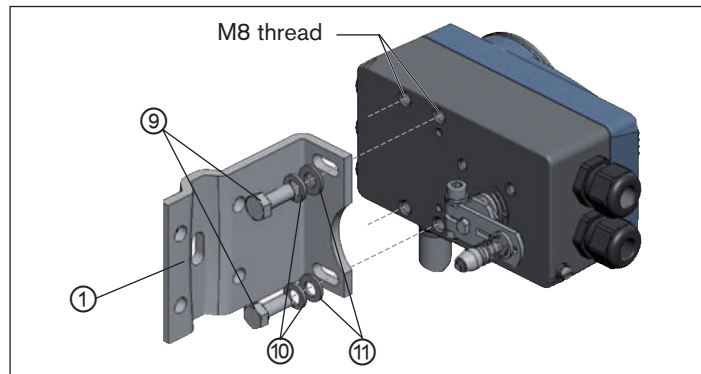

Fig. 9: Attaching mounting bracket
→ Attach mounting bracket ① to the back of the positioner with hexagon bolts ⑨, circlip ⑩ and washers ⑪ (see “Fig. 9”).